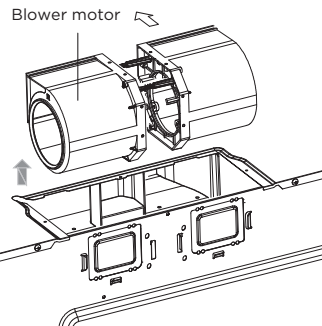

Figure 8
- Lift blower unit out of mounting location. See Figure 8.
A-1 Ventilation motor. See Section B, steps 1 and 2 for access to the blower motor. Also see Figure 8.